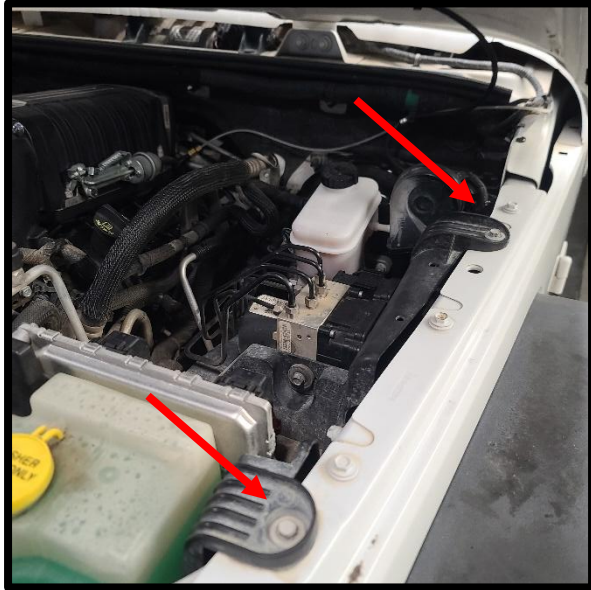

Figure 25
- 5-A) Under the hood, remove the three (3) bolts indicated below in **Figures 25 and 26**. The lower bolt also requires the removal of the nut on the back side from the inner fender (**Figure 27**). Place some sort of spacer under the plastic tab as shown in **Figure 28**. This will allow access to the underside for installation of the air locker manifold assembly.